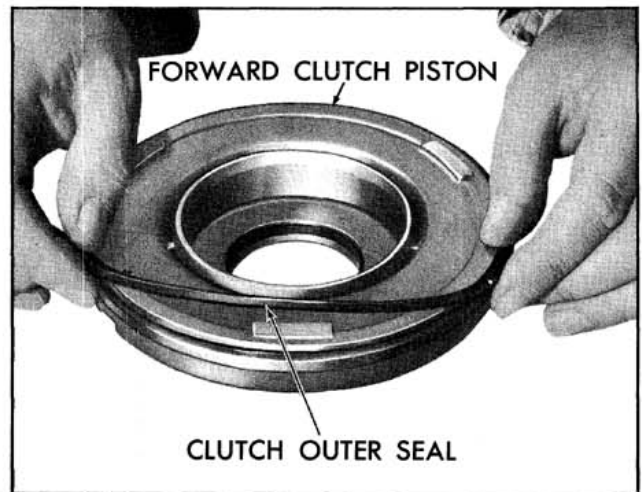

Fig. 6-133 Removing Outer Piston Seal
9. Remove the inner and outer clutch piston seals. (Figs. 6-133 and 6-134)